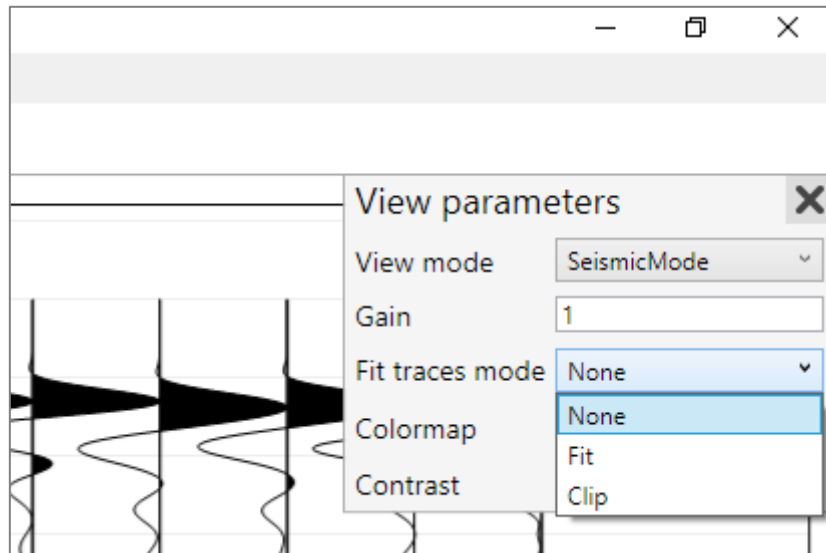

Fig. 31. Selecting trace alignment mode
2. Fit traces mode. Additional modes of traces display (Fig. 31). None - traces are displayed "as is". Clip traces - traces are clipped to neighboring traces. Fit traces - the trace amplitude is aligned to the width of the area occupied by the trace.